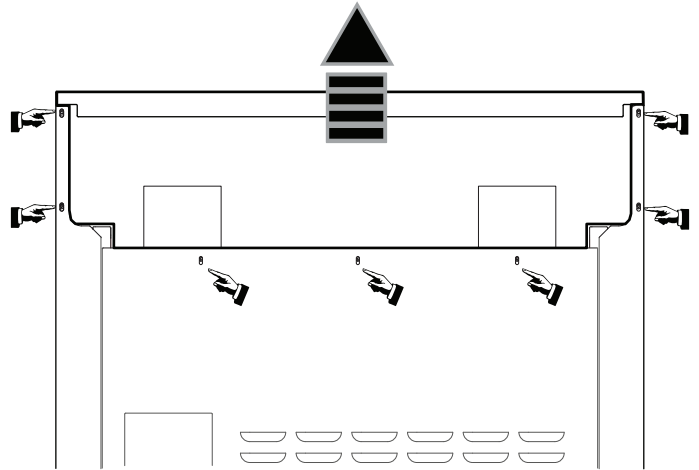

Figure 22: Flush Island Trim Rear Screw Removal
2. Remove the (4) drill point screws securing the trim to the side panels, and the (3) or (4) drill point screws securing the piece to the back panel. Lift up to fully remove (Figure 22).